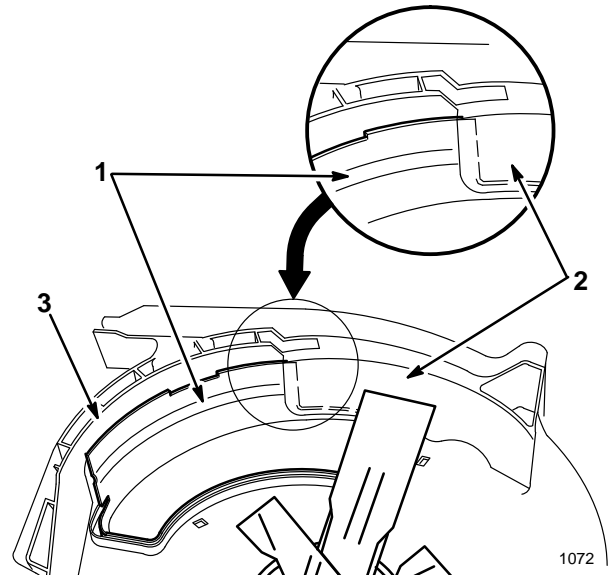

Figure 36
- Check the clearance between blade tips and the baffle, ensuring that there is no contact (Fig. 36).
Note: The baffle must go behind the front deck baffle and between the blade and toe guard to prevent contact with the blade (Fig. 36).
9. Check the clearance between the blade tips and the mulch plate baffle, ensuring that there is no contact (Fig. 36).